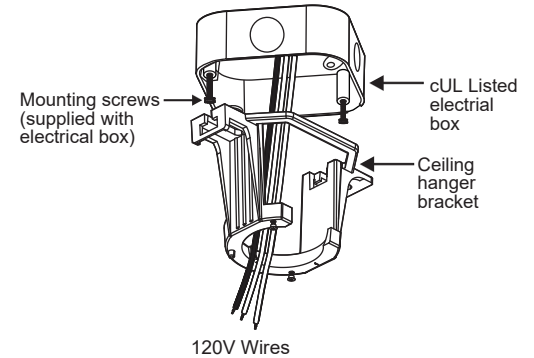

Fig. 7
Step 2. Pass the 120 volt supply wires from the ceiling outlet box through the center of the ceiling mounting bracket. (Fig. 7)
Step 3. Attach the mounting bracket on the outlet box by sliding the mounting bracket over the screws provided with the outlet box. Note that the flat side of the mounting bracket is toward the outlet box. (Fig. 7)
Step 4. Securely tighten the two mounting screws. (Fig. 7)